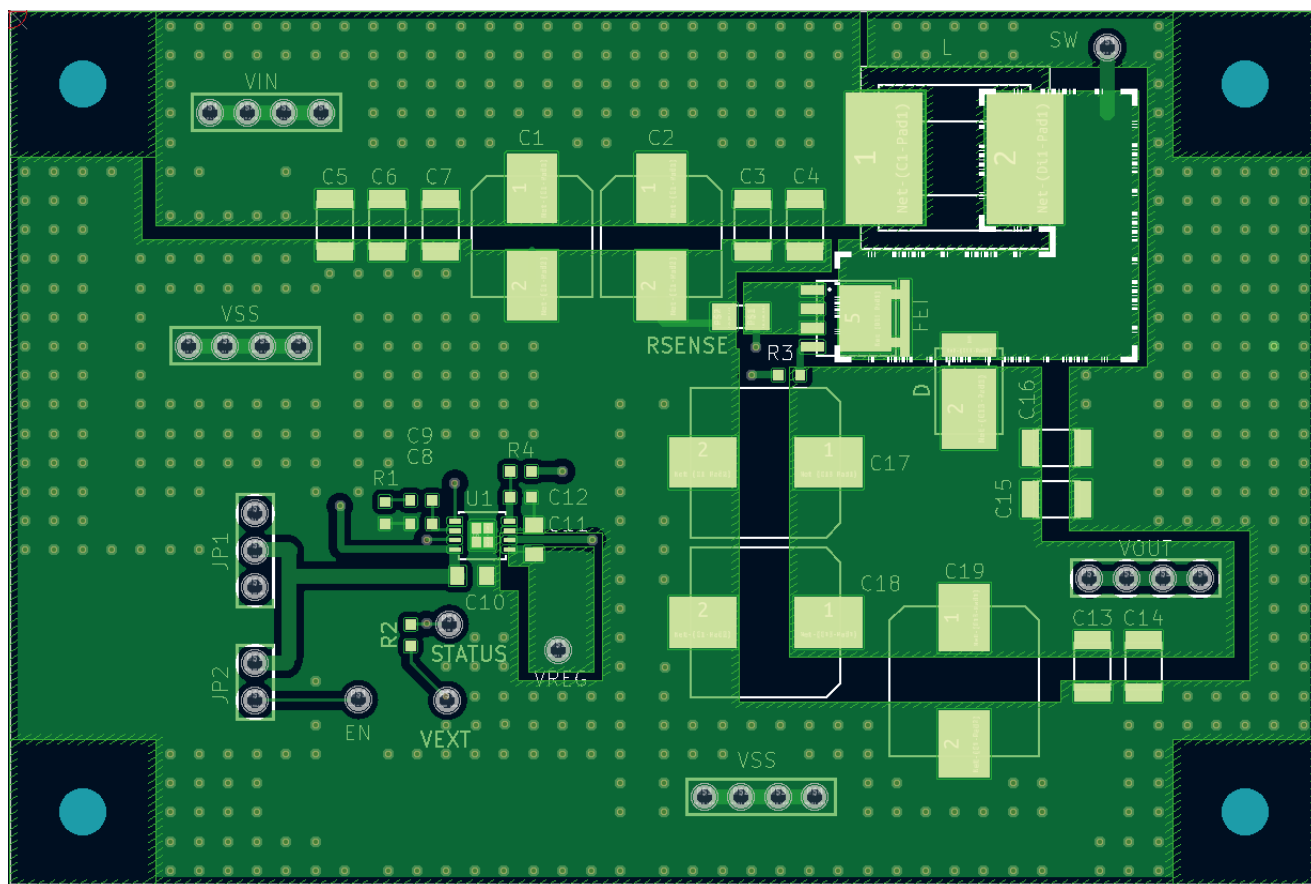

Figure 13 Reference Board Pattern
- The switching node (SW) wiring area (Dashed line area in "Figure 13 Reference Board Pattern") should be as small as possible to reduce high-frequency radiation noise.